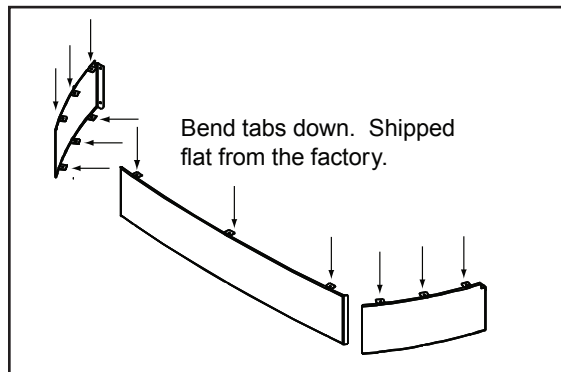

Figure 19.1
2. Lay front and sides face down. Bend the tabs down toward the inside. **Figure 19.1.**